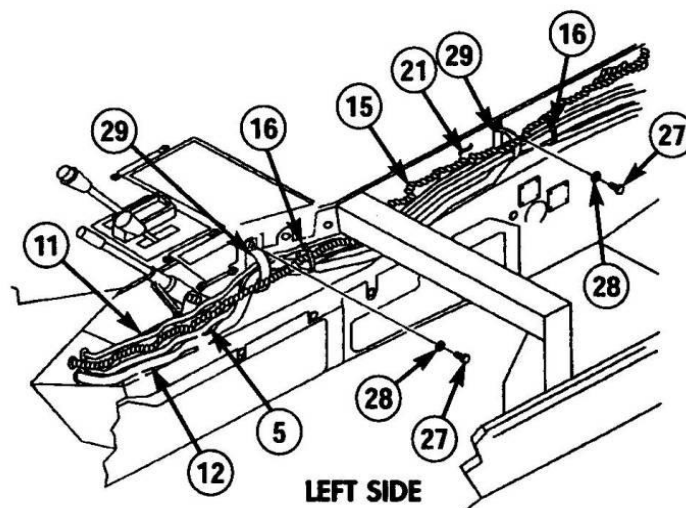

Figure 61
(14) Install two clamps (29) around hose (12) and hose assemblies (11) and (5), refer to **Figure 61**.
(15) Apply sealing compound to threads of two cap screws (27), refer to **Figure 61**.
(16) Secure two clamps (29) to left side tunnel with washers (28) and cap screws (27) tighten cap screws (27) to 6 ft-lb (8 N·M), refer to **Figure 61**.